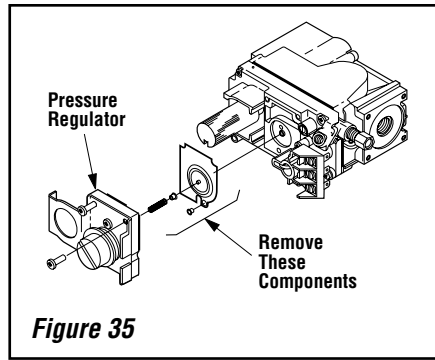

Figure 35
Step 4. Refer to **Figure 35** and the instructions provided with the kit. Using a Torx T20, remove and discard the three pressure regulator mounting screws. Remove the pressure regulator, spring, poppet, diaphragm and bushing. **Discard all removed components.** Ensure the rubber gasket installed on the back of the replacement pressure regulator is properly positioned and install the new pressure regulator using the new screws supplied with the kit. Tighten screws to 25 In. lb. torque.